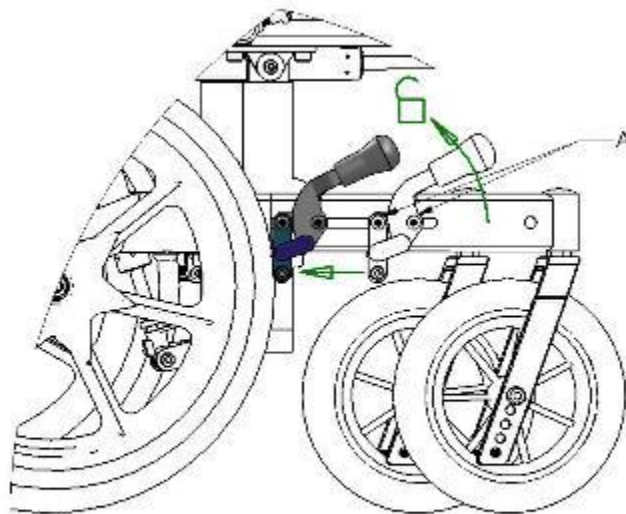

Figure 17
The leg rests are provided with upholstered calf supports. The cushions are constructed with wedges along the side to achieve the greatest support. The calf supports will automatically adjust to the shinbone. The calf supports can be adjusted by loosening the screw (A) as shown. Place the calf support in the desired position and tighten the screw. Figure 17.